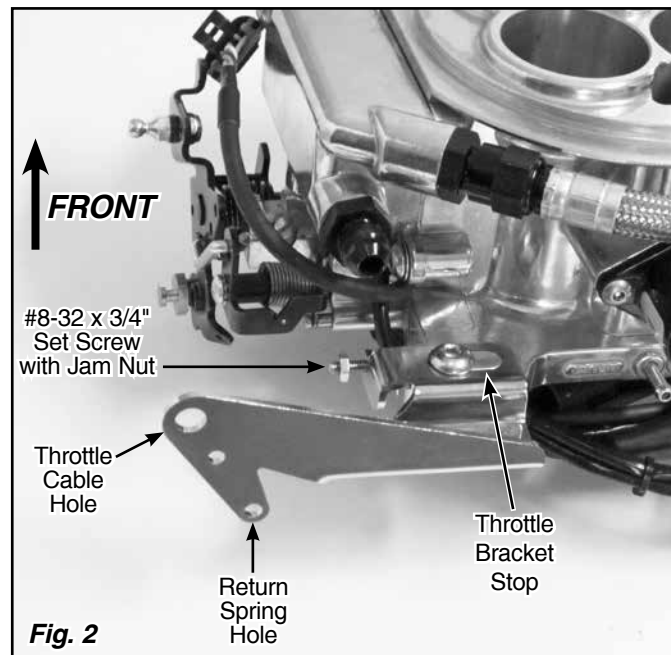

Fig. 2
Step 1: Remove the throttle body mounting bolt from the driver side rear corner of the throttle body. Position the Lokar Throttle Cable Bracket as shown in Fig. 2. Drop the throttle bracket stop into the unused mounting bolt hole at that corner of the throttle body base. Reinstall the throttle body mounting bolt. Snug it down finger tight, but do not fully tighten it yet.